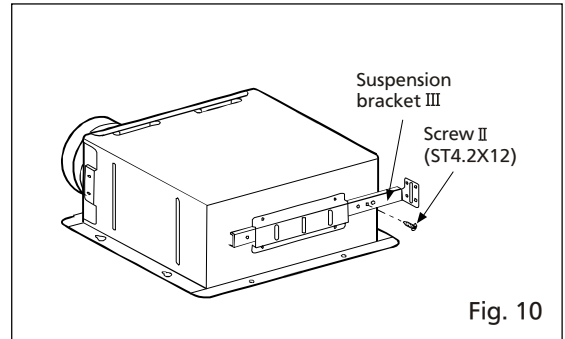

Fig. 10
2. Connect the suspension bracket III to fan body. (Fig.10) (Select the hole by checking I-joist size fix the screw to the frame hole.)